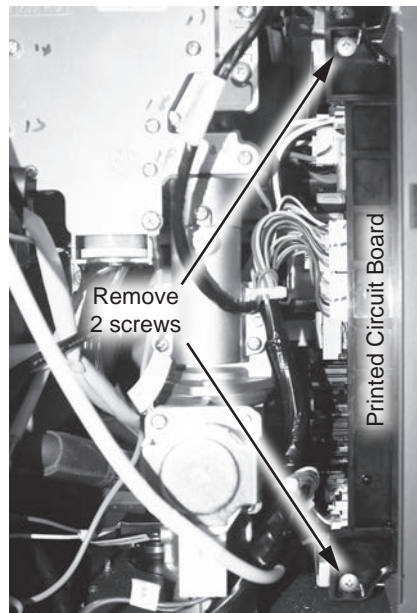

Figure 100 - Removing PCB screws
- 18 Locate the Printed Circuit Board (PCB) on the right side of the water heater. Use a Phillips screwdriver to remove the two screws securing the PCB. Place screws aside in a safe place for reinstallation. See Figure 100.